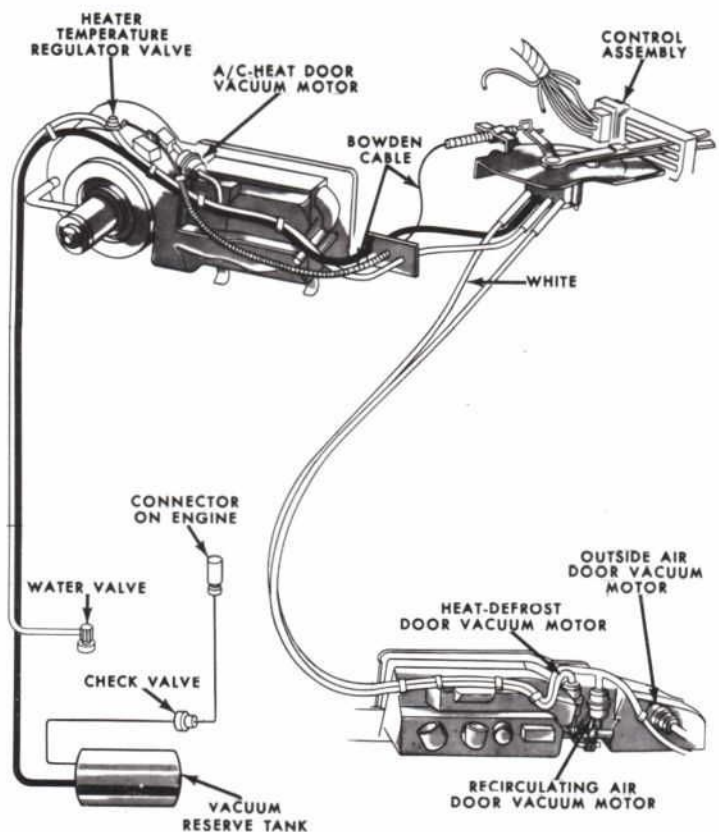

Figure 26—Ford and Mercury A/C-Heater Vacuum Schematic
**Diagnosis of Vacuum Controlled Systems**—Figure 26 on page 11 schematically illustrates the integral Air Conditioning-Heater system used on Ford and Mercury cars. The vacuum operated air distribution doors are typical for other systems. The following charts indicate the correct position of these doors with respect to Control Lever positions. With this information the technician can make a quick diagnosis of vacuum application and air distribution. Failure to maintain 14-inches of mercury indicates a vacuum leak.